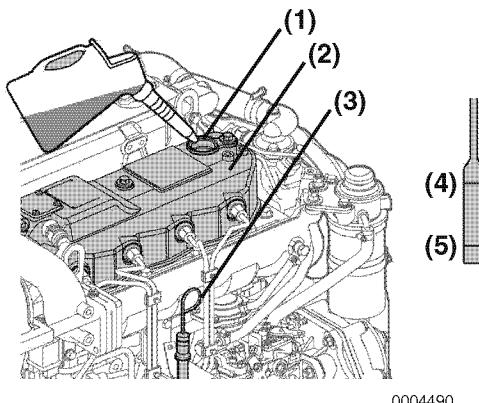

Figure 8
2. Remove dipstick (Figure 8, (3)) and wipe with clean cloth.
4. Remove dipstick. The oil level should be between upper (Figure 8, (4)) and lower (Figure 8, (5)) lines on the dipstick.
1. Remove the yellow oil filler port cap from filler port (Figure 8, (1)) and fill with engine oil.
- Fill with oil to the upper limit (**Figure 8, (4)**) on the dipstick (**Figure 8, (3)**).